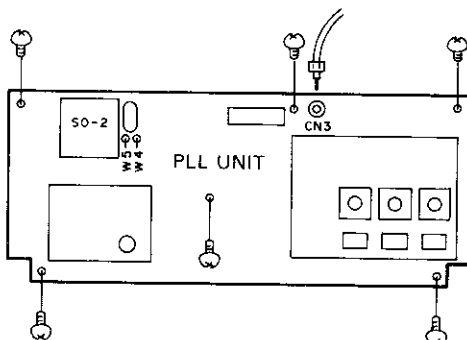

Fig. 4
Remove the screws holding the PC board (Fig. 4)
5. Cut jumpers W4 and W5.(Fig. 4)
6. Solder the SO-2 to the indicated area. (Fig. 4)
7. Insert coaxial connector CN3 and tighten the screws holding the PC board.(Fig. 4)